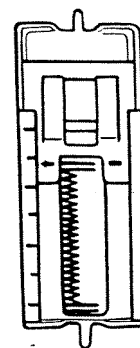

Fig. 41
7. With the needle out of the cloth, set selector dial at "  " and sew 4 or 5 stitches. (bar tack) (Fig. 41)